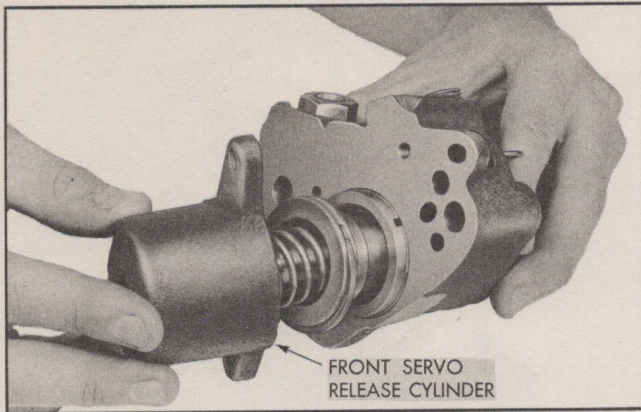

Fig. 27 Removing Front Servo Release Cylinder
1. Remove two (2) release cylinder to servo body cap screws and lock washers using a 7/16" wrench.
2. Remove release cylinder and front servo spring (Fig. 27).